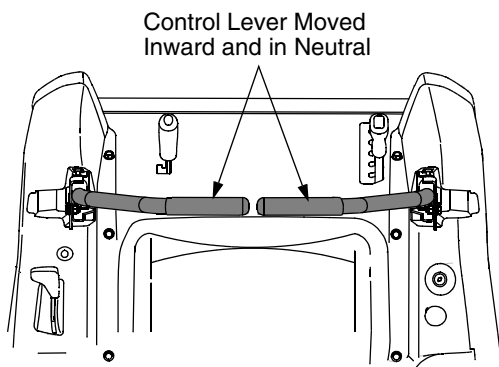

Figure 10
- Move the RH and LH drive control levers inward in the neutral position. See Figure 10.